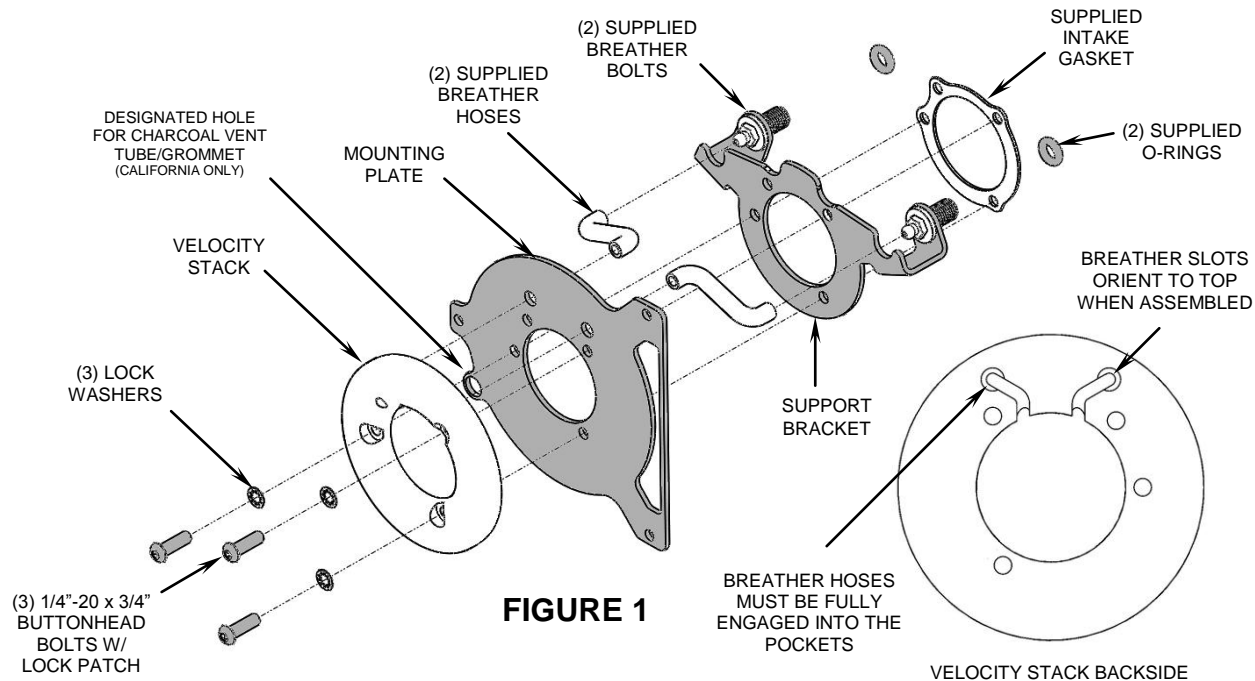
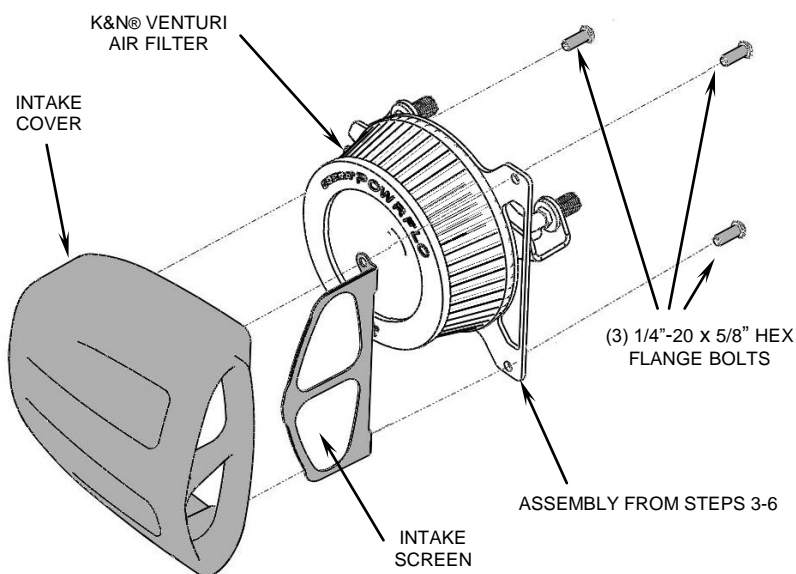

FIGURE 1
FIGURE 2
1. Remove the (2) allen bolts from the center of the stock air cleaner to remove the cover. Remove the (3) bolts securing the air filter. Remove the stock (2) breather bolts from the cylinder heads. Discard the air box, air filter, hardware and seals/gaskets.
3. Insert the (2) supplied breather hoses through the mounting plate and into the velocity stack with the hoses rotated outward, as shown in Figure 1. Make sure the breather hoses are bottomed out in the back of the velocity stack.
*NOTE: California models will need to install the vent tube grommet into the designated hole in the mounting plate, see Figure 1.*
4. Insert (3) supplied 1/4"-20 x 3/4" buttonhead bolts with lock washers through the mounting holes in the velocity stack and mounting plate, then position on top of the installed support bracket (Step 2). Start threading the buttonhead bolts into the throttle body, but do not tighten. See Figure 1.
5. Snug the (3) buttonhead bolts evenly, and then fully tighten them to the throttle body. Fully tighten the (2) breather bolts from Step 2.
8. Place the intake cover over the air filter and mounting plate. Insert the (3) supplied 1/4"-20 x 5/8" hex flange bolts through the mounting plate, intake screen and into the intake cover then tighten. See Figure 2.